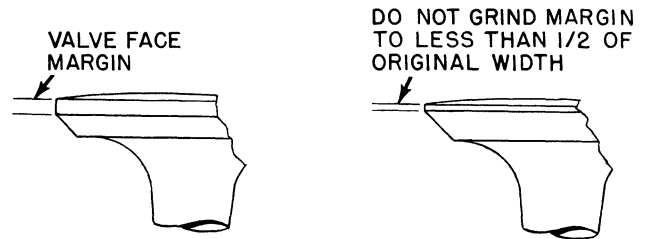

Figure 23 - Valve Face Margin
1. Maintain reasonable margin. Figure 23.